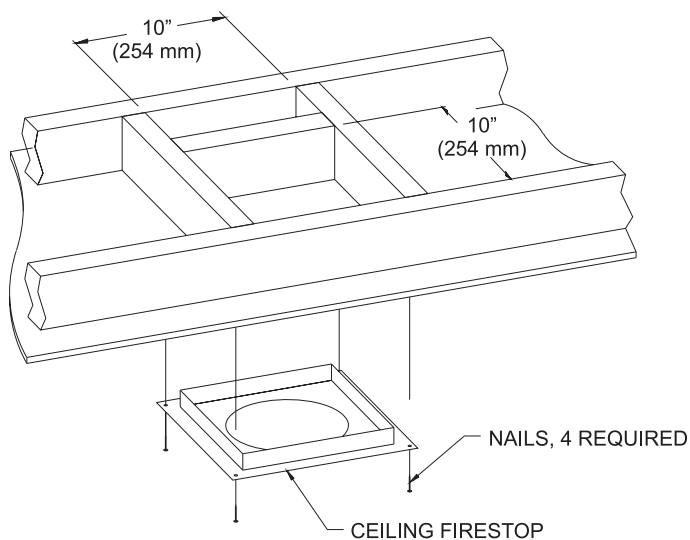

**Figure 50 (Attic Installation)**
**See Figure 49.** If the area above the ceiling is an attic, position and secure the firestop on top of the previously framed hole. **See Figure 50.**